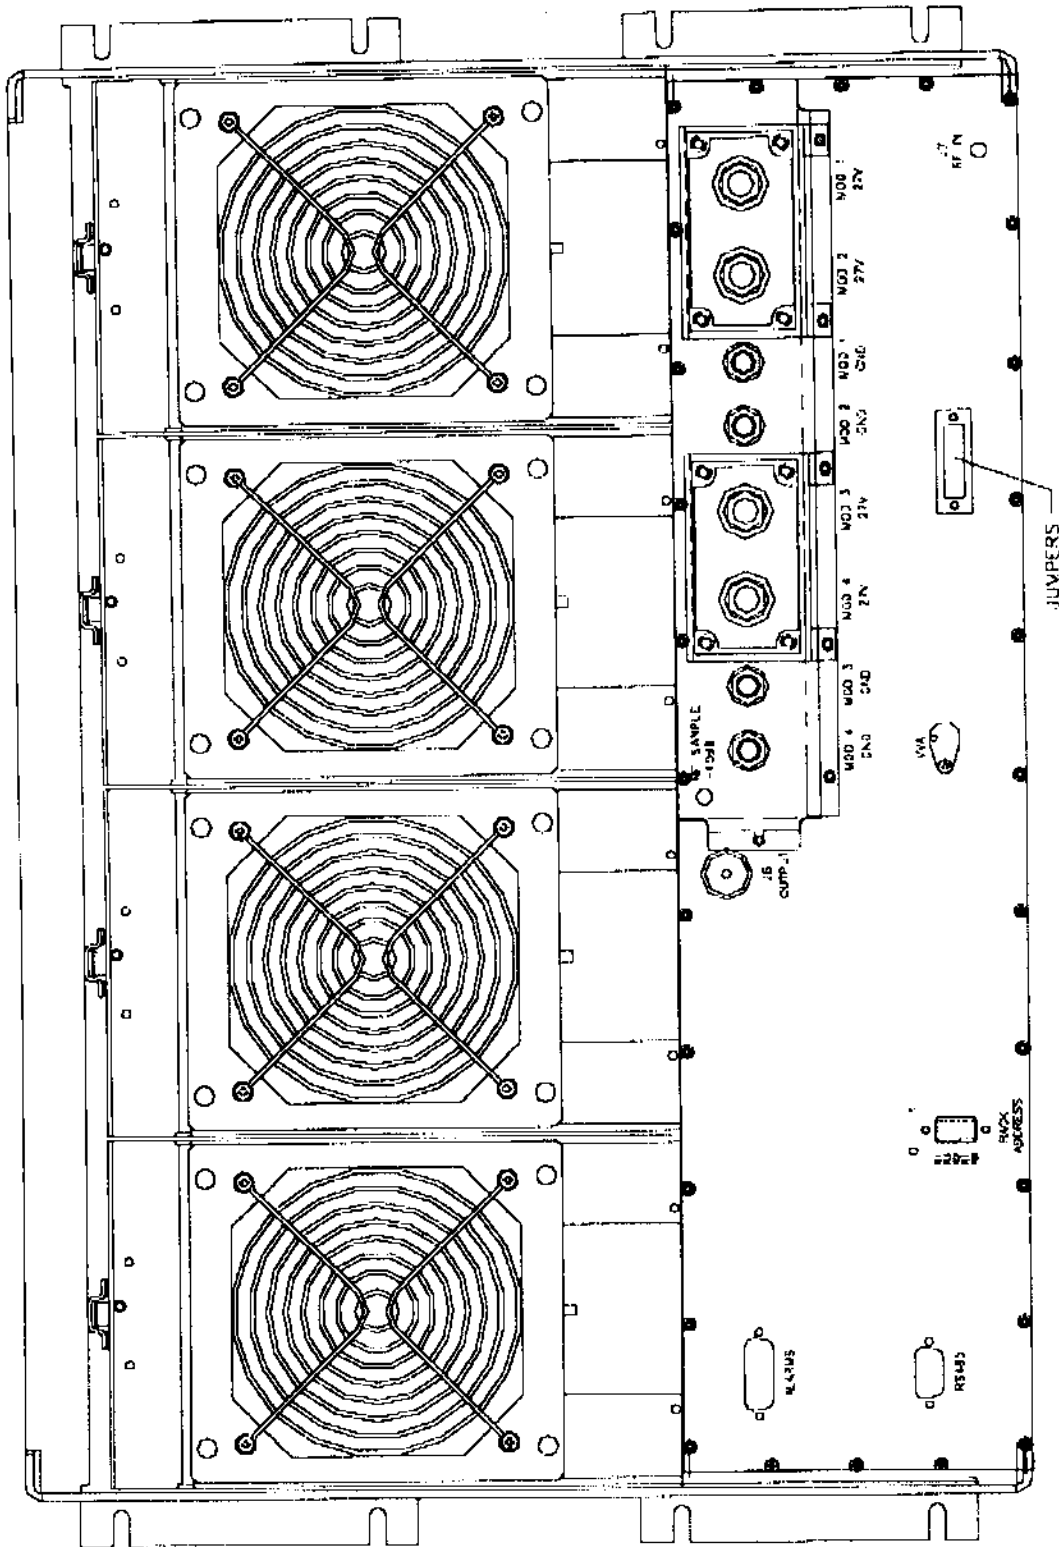

Figure 2-1. MCR4109-1 Rear View
## 2-4. INSTALLATION INSTRUCTIONS (Refer to figure 2-1 and table 2-1)
The location and function of the system interface connectors is shown in figure 2-1 and is described in table 2-1.
2. Refer to figure 2-1 and table 2-1 for the location and definition of all subrack input/output connectors.